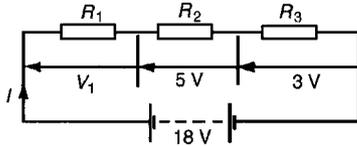

Figure 5.9
- 2 For the circuit shown in Fig. 5.9, determine the value of V_1 . If the total circuit resistance is 36 Ω determine the supply current and the value of resistors R_1 , R_2 and R_3